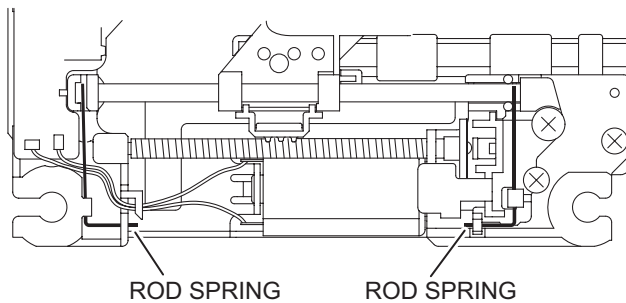

Fig.7
3.2.2 Removing the pickup assembly (See Fig.7 to 11)
(1) Remove the two rod springs pressing the guide shaft. (See Fig.7)